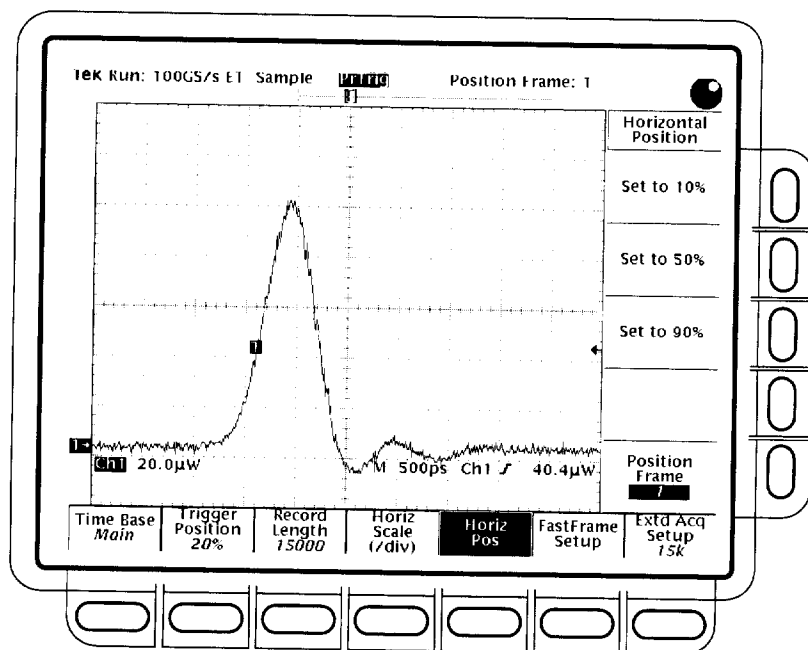

Figure 1–45: Optical impulse of Ch1 input from OA5022 Optical Attenuator (OIG501 / OIG502 fed into optical attenuator in Step 1)
- Adjust the **HORIZONTAL POSITION** to move the 20% trigger point onto the display (see Figure 1–45).
- If checking a reference receiver, verify that RR is displayed to the right of the vertical scale factor (see Figure 1–46 on page 1–105).
3. Turn on an FFT of the optical impulse [the Impulse Response (or Frequency Response) of the P670xB and oscilloscope system] (Refer to Figure 1–47 on page 1–106):